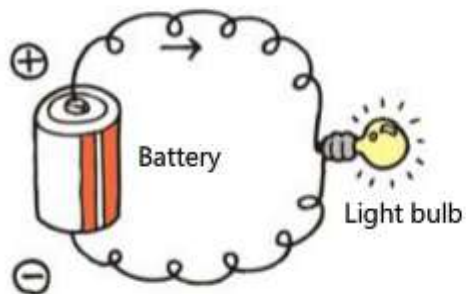

Fig.1. Flow of electrical current
- **Direct current (Figure 1 to 3)**